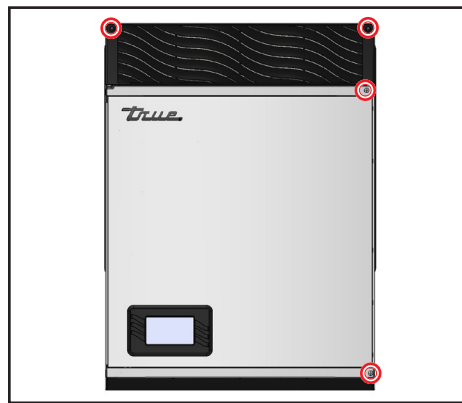

Fig. 1. Front panel and grill screw locations.
2. Open the front panel and, if present, remove the front grill. See fig. 1.